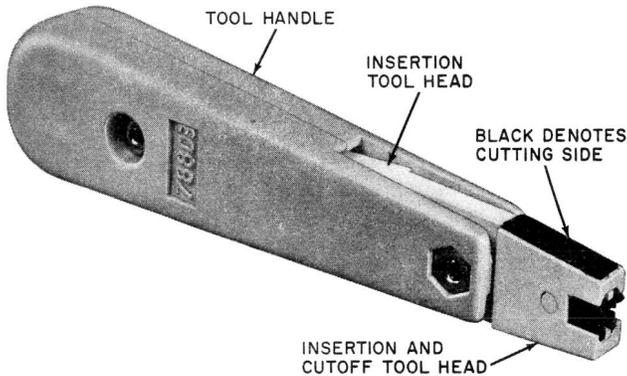

Fig. 12—788D-Type Tool, Single-Pair Insertion/Cutoff
2.17 The single pair insertion tool ◆(788D4)◆ is supplied as a combination of the handle and insertion head. The reversible ends of the head provide either insertion/cutoff or insertion only (Fig. 12) of a single cable pair.